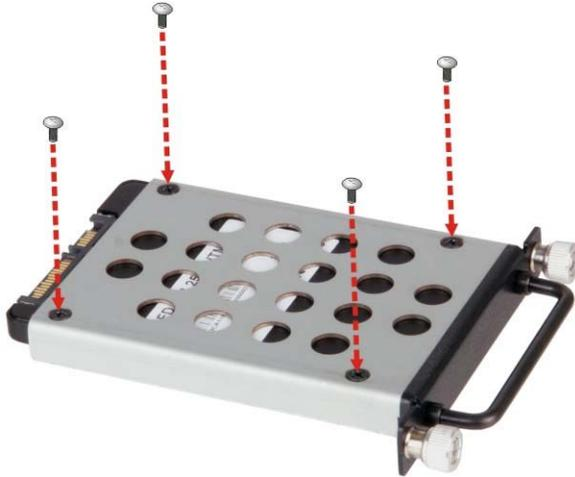

Figure 3-17: SSD Retention Screws
Step 3: Place an SSD onto the bracket and secure the SSD with the bracket by inserting four retention screws (M3*4) into the bottom of the SSD (**Figure 3-17**).